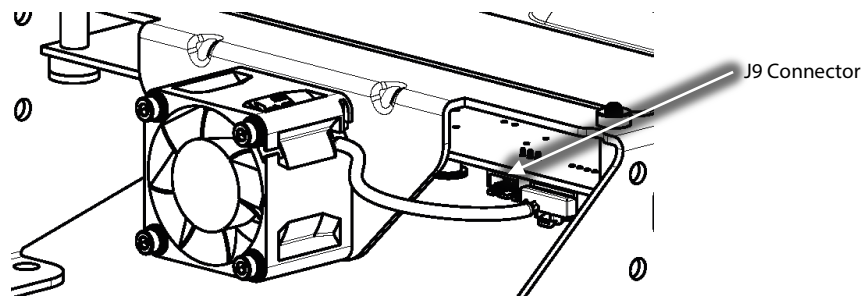

Figure 3 – Soft Start J9 Connector
5. For F Series and later compressors, disconnect the Soft Start Temperature Harness from the Soft Start. Refer to Figure 3 (Soft Start J9 Connector).